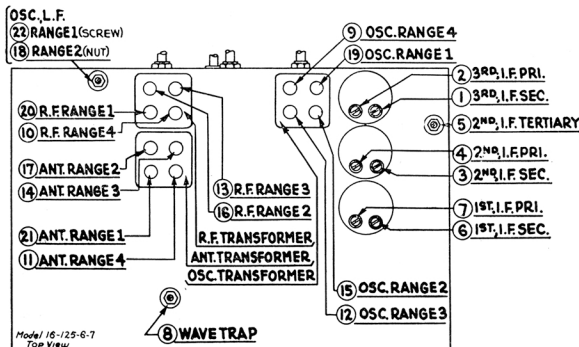

Fig. 1
4. Using the fibre adjusting screw driver, adjust the I.F. compensating condensers in the following order to give maximum reading in the output meter: ①, ②, ③, ④, ⑤, ⑥, ⑦. (Fig. 1).